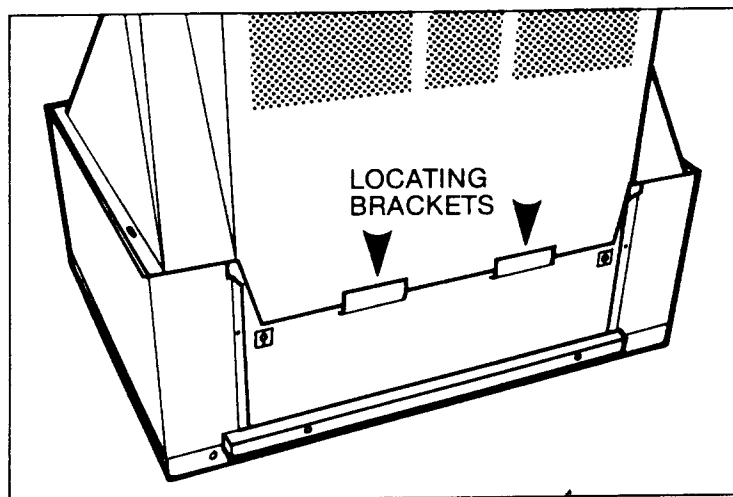

FIG E3 E SERIES CABINET BACK LOCATING BRACKETS
3. See Fig E3, E Series: Cabinet Locating Brackets.